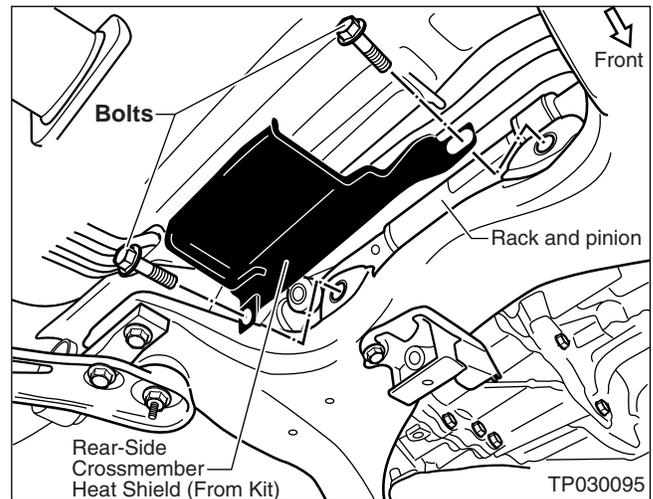

Figure E19
24. Remove the two main Steering Rack and Pinion mounting bolts (see Figure E19).
25. Install the new Rear-Side Crossmember Heat Shield using the Rack and Pinion bolts (see Figure E19).